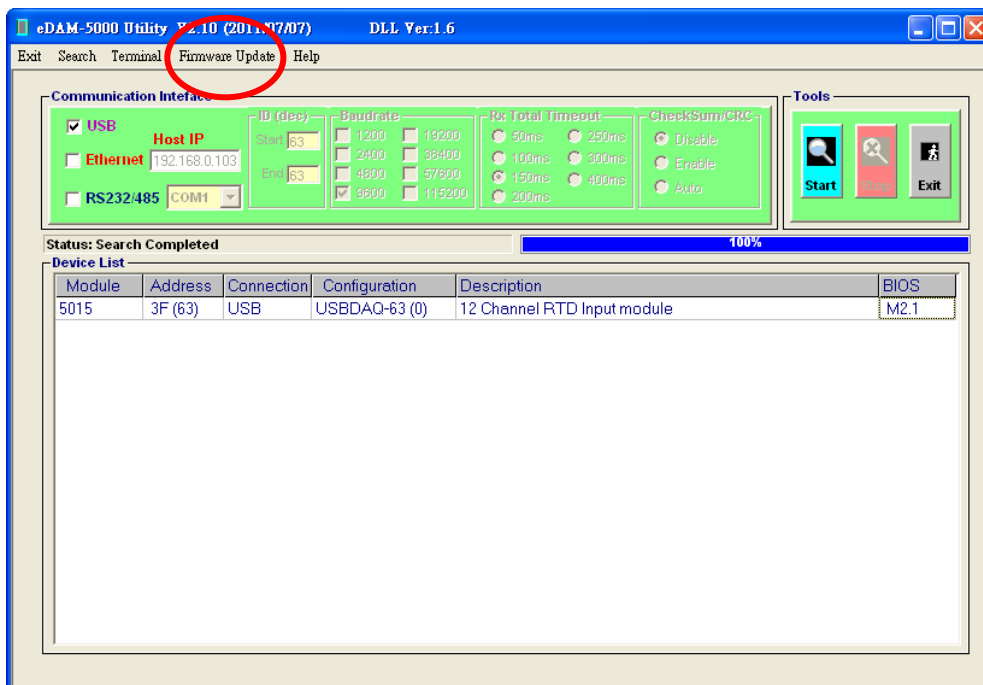

Figure 4
- Click **"Firmware Update"** in the menu bar (see Figure 4)